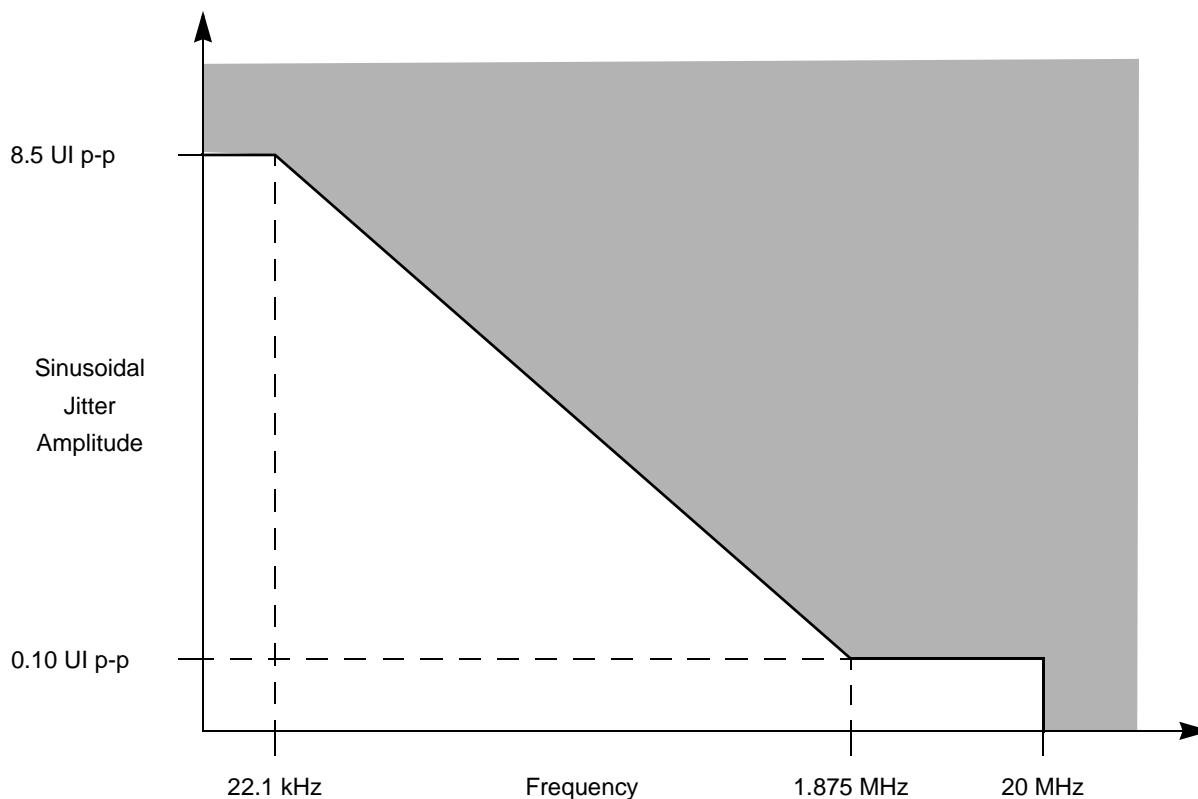

Figure 59. Single Frequency Sinusoidal Jitter Limits
1. Total jitter is composed of three components, deterministic jitter, random jitter and single frequency sinusoidal jitter. The sinusoidal jitter may have any amplitude and frequency in the unshaded region of Figure 59. The sinusoidal jitter component is included to ensure margin for low frequency jitter, wander, noise, crosstalk and other variable system effects.
- Total jitter is composed of three components, deterministic jitter, random jitter and single frequency sinusoidal jitter. The sinusoidal jitter may have any amplitude and frequency in the unshaded region of Figure 59. The sinusoidal jitter component is included to ensure margin for low frequency jitter, wander, noise, crosstalk and other variable system effects.